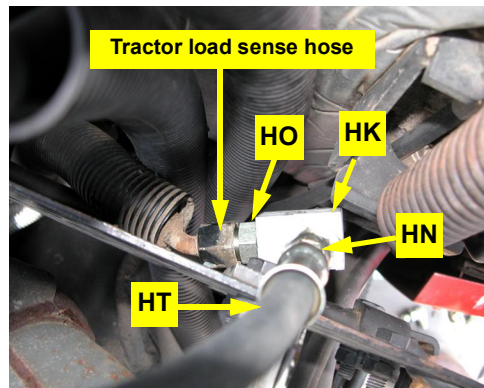

Figure 8-2d: Load sense line to shuttle
d. Connect the tractor load sense hose (disconnected at c) to **HO** on the prepared load sense shuttle **HK** (Figure 8-2d).